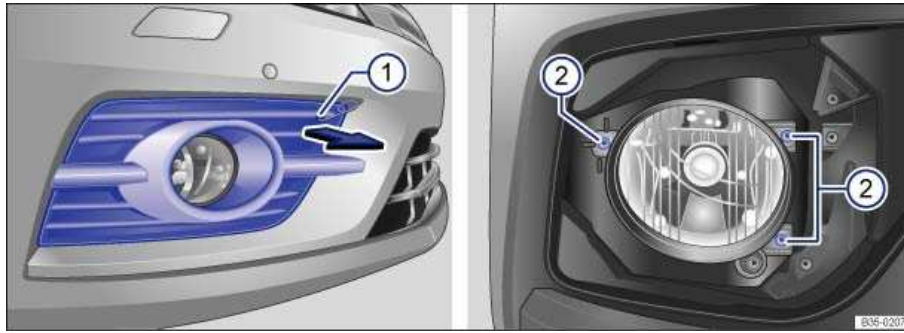

Fig. 199 In the right front bumper: Fog light.
| 3. | Insert the wire bracket into the opening ⇒ fig. 199 (1) on the cover and pull it forward in the direction of the arrow with the cover and remove. |
| 14. | Install the screws ⇒ fig. 199 (2). |